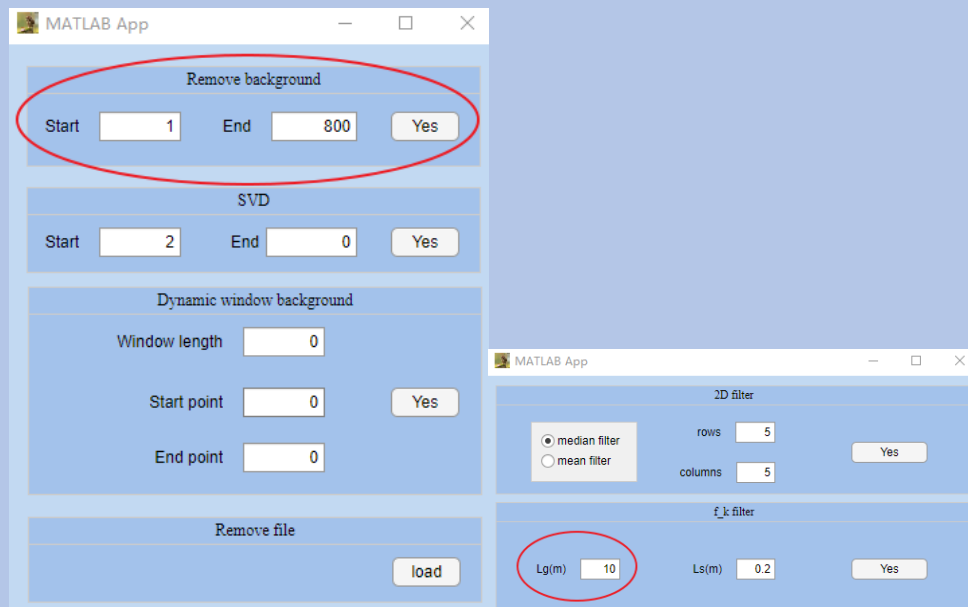

Figure 8.5 Case1 processing flow settings
(4) First, we applied the R\_DC algorithm to prevent DC interference from the device. Then, we applied the "Remove background" algorithm in R\_background to set the background data to 1-800 traces. This is because this data comes from the instrument in a stationary state at the bridge head. Finally, through our observation, we found that the strong multiple reflections between the air-coupled antenna and the ground had interfered with the entire profile. We selected the f\_k filter method in TwoD filter to remove the multiple waves. Lg is set to 10 (1/3 of the profile), and Ls is kept at the default value. The processing flow is set as shown in Figure 8-5.